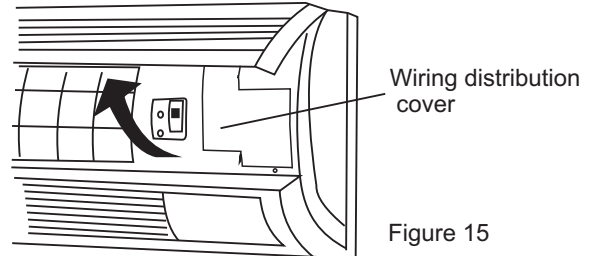

Figure 15
- 2) Release the screws and open the wire distribution cover (Figure 15).